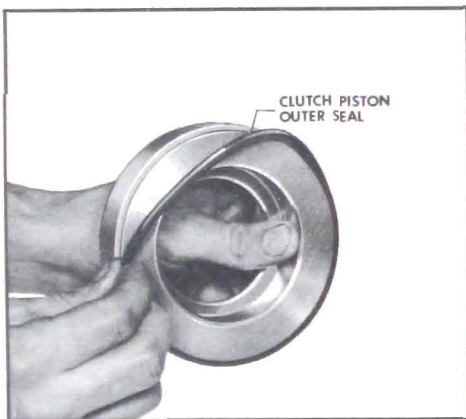

Figure 5-226
4. Lubricate with transmission oil and install new forward clutch piston outer seal in clutch piston. Seal lip must point down. See Figure 5-226.